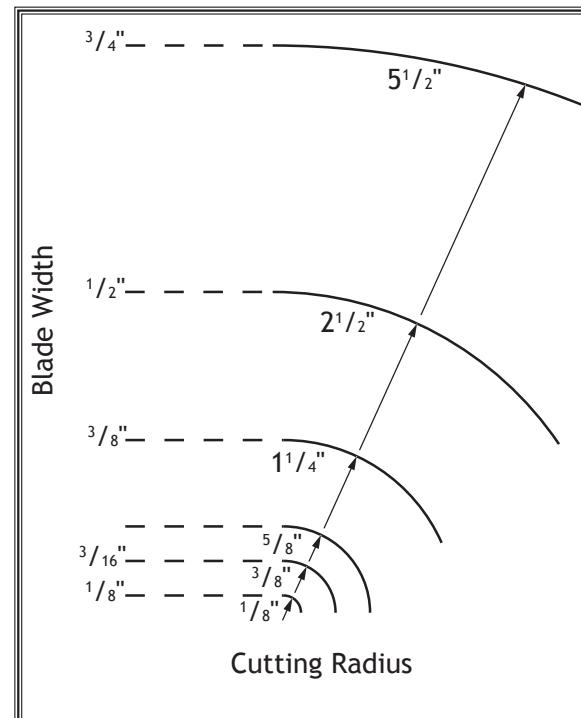

Figure 67. Recommended cutting radius per blade width.
- Curve Cutting:** Use the chart in **Figure 67** to determine the correct blade for curve cutting. Determine the smallest radius curve that will be cut on your workpiece and use the corresponding blade width (refer to **Cutting Curves on Page 54** for more information).